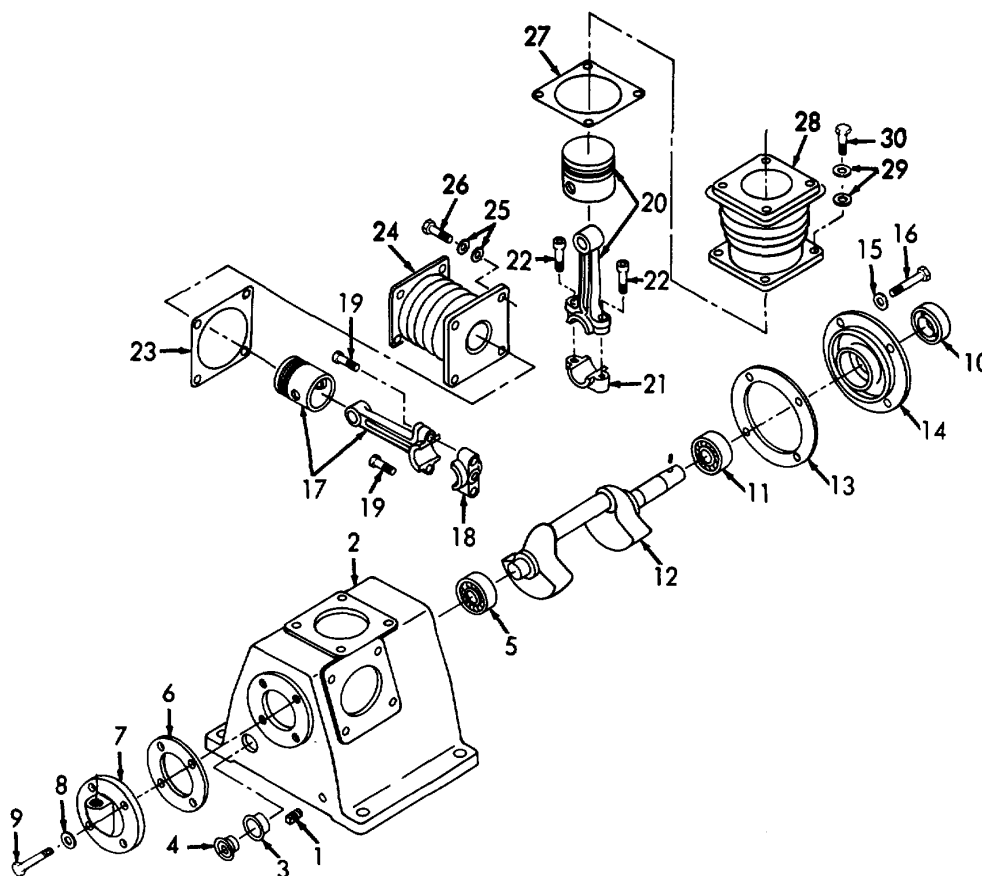

Figure 4-3. Air Compressor, Assembly.
- (e) Place piston (5) into position on connecting rod (6) and install piston pin (4) into position using an arbor press.
- (f) Install two snap rings (3).
- (g) Carefully install a new oil ring (2).
- (h) Carefully install two new compression rings (3).
*e. Assembly. (Refer to Figure 4-3).*
- (1) Install oil drain plug (1) to crankcase (2).
- (2) Install oil sight gage seal (3) and oil sight gage (4).
- (3) Install bearing (5).
- (4) Install new gasket (6), rear bearing cover (7), eight copper washers (8), and four bolts (9).
- (5) Install new bearing seal (10) and bearing (11).
- (6) Install crankshaft (12).
- (7) Install new gasket (13), front bearing cover (14), four washers (15), and four bolts (16).
- (8) Install second stage connecting rod and piston assembly (17), connecting rod cap (18), and secure with two bolts (19). Be sure that cap is installed in the original position.
- (9) Install first stage connecting rod and piston assembly (20), connecting rod cap (21), and secure with two bolts (22). Be sure that cap is installed in the original position. Repeat for other first stage connecting rod and piston assembly.
- (10) Install new gasket (23) into position.